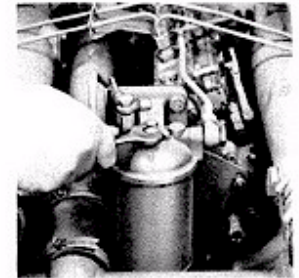

Fig. 11(a)
1. Unscrew final filter vent plug (see fig. 11(a)).
2. Unscrew the two vent plugs or vent screws on the fuel injection pump by two or three turns. These plugs are fitted each side of the fuel inlet connection on the right hand side of the pump (see figs. 11(b)(c)).